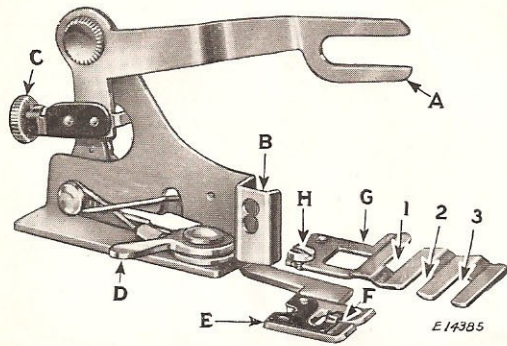

Fig. 2.
in the foot is in the hole in the edge guide before tightening the screw (H). The slots serve as guides for the edges of any material to which the zigzag stitch is to be applied. See Fig. 2. The edge inserted in slot 1 will be stitched over the edge placed in slots 2 or 3. Either left-hand slot may be used, depending on how much overlap is desired.